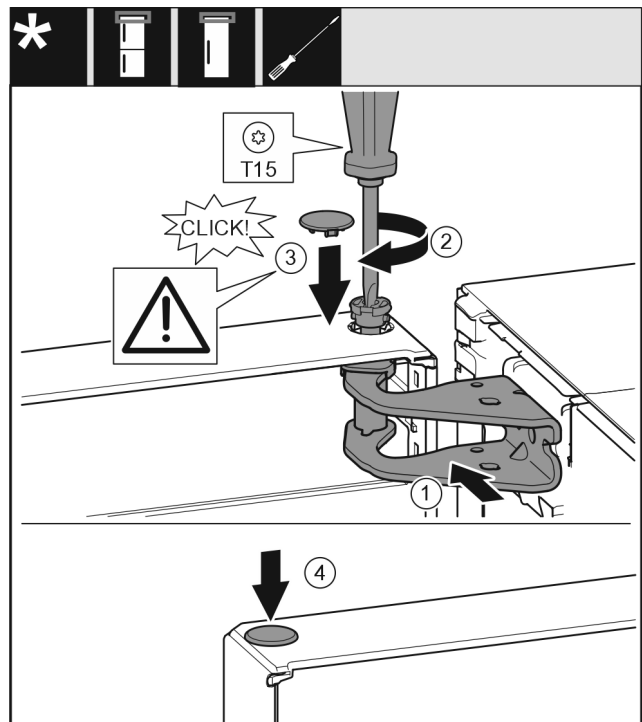

Fig. 22
- Align the top of the door with opening in the bearing bracket. Fig. 22 (1)
- Insert the bolt Fig. 22 (2) and use screwdriver to tighten it.
- Fit the safety cover Fig. 22 (3) to secure the door: Insert the safety cover and check whether the door is resting on it. Otherwise, insert the bolt fully.
- ▶ Insert the plug *Fig. 22 (4)*.